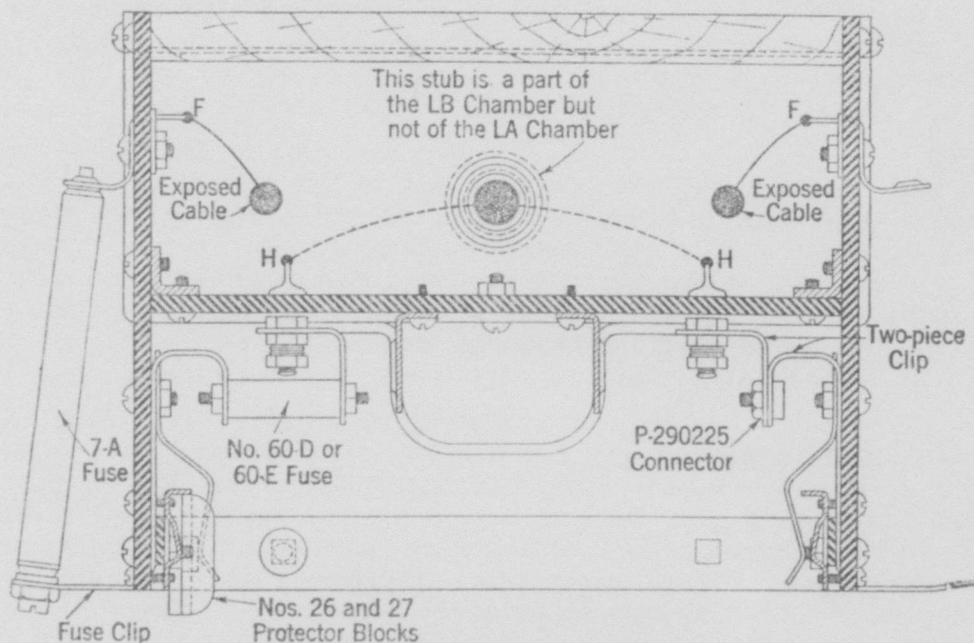
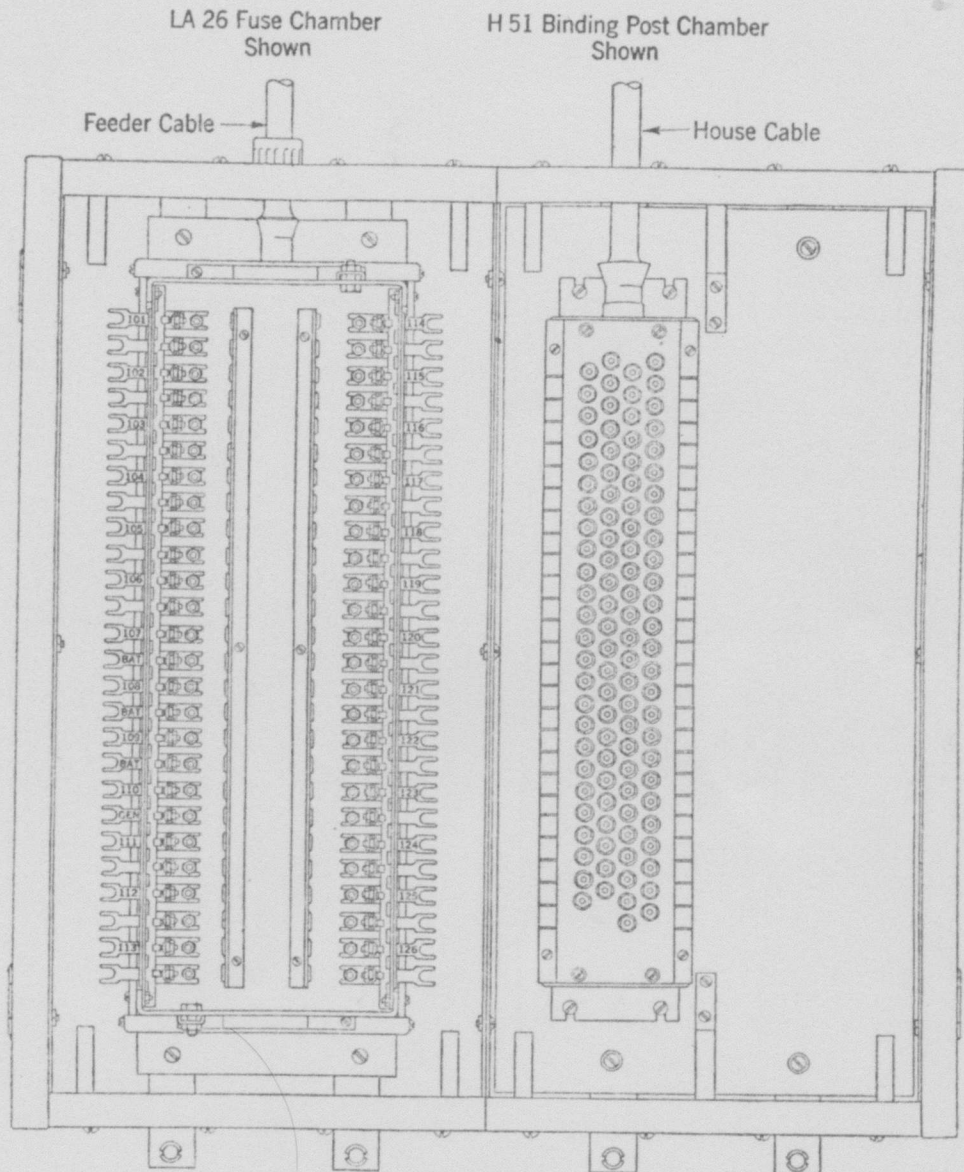

Fig. 1—Cross-sectional View of LA or LB Type Fuse Chamber.
Fig. 2—Front View of LA Type Cable Terminal.
2.01 Fig. 1 shows a cross-section view of these fuse chambers. The feeder cable pairs are terminated on lugs at the rear right and left-hand sides of the fuse chamber designated (F) in Fig. 1. In LB type fuse chambers the house cable pairs are terminated on the binding post lugs designated (H) in Fig. 1. House cable pairs are not terminated in LA type fuse chambers but instead are terminated in a separate binding post chamber as indicated in Fig. 2.
2.03 Each feeder cable conductor placed in service must also be equipped with Nos. 26 and 27 protector blocks. To place the protector blocks, raise the spring at the inside front edge of the fuse chamber and place the protector blocks under the spring as shown in Fig. 1.
2.04 The two parts of the two-piece clip inside of LA and LB type fuse chambers are normally joined together with a connector P-290225 as shown to the right in Fig. 1.
If the connector is removed and the angle portion of the two-piece clip is removed from the binding post and reinstalled turned through an angle of 180°, a 60 type fuse can be placed in the two-piece clip as shown to the left in Fig. 1.
It is, therefore, necessary to employ jumpers between the fuse chamber and the binding post chamber or connecting blocks for cross-connection purposes. A typical LA type cable terminal installation is shown in Fig. 2.
4.01 In LB type fuse chambers the house cable is terminated on the binding posts in the fuse chamber as mentioned in 2.01 and illustrated in Fig. 1. The fuses provide the necessary cross-connections between the feeder and house cable pairs; hence, jumpers are not required.